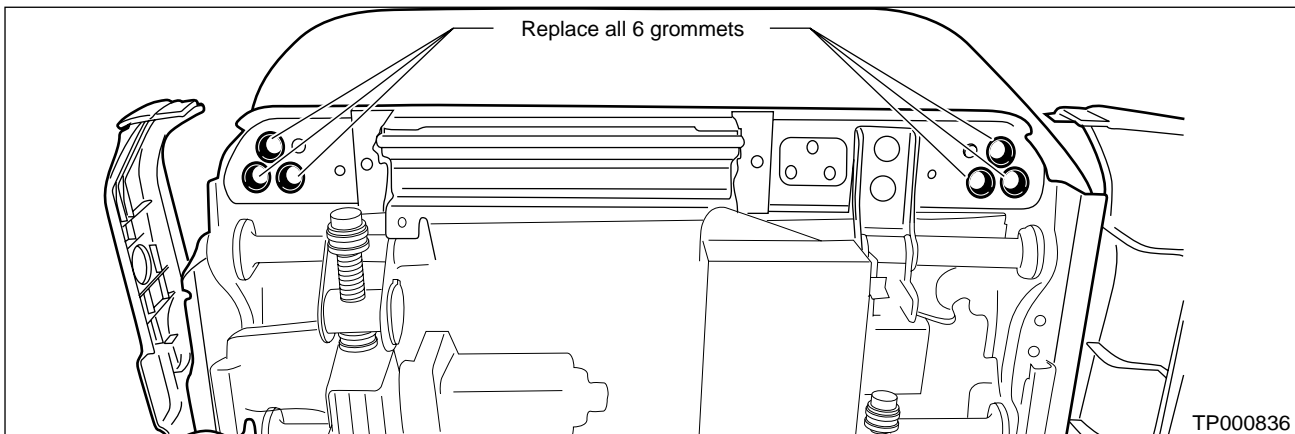

Figure 10
18. Replace all six rubber grommets (3 on each side) from the kit (see figure 10).